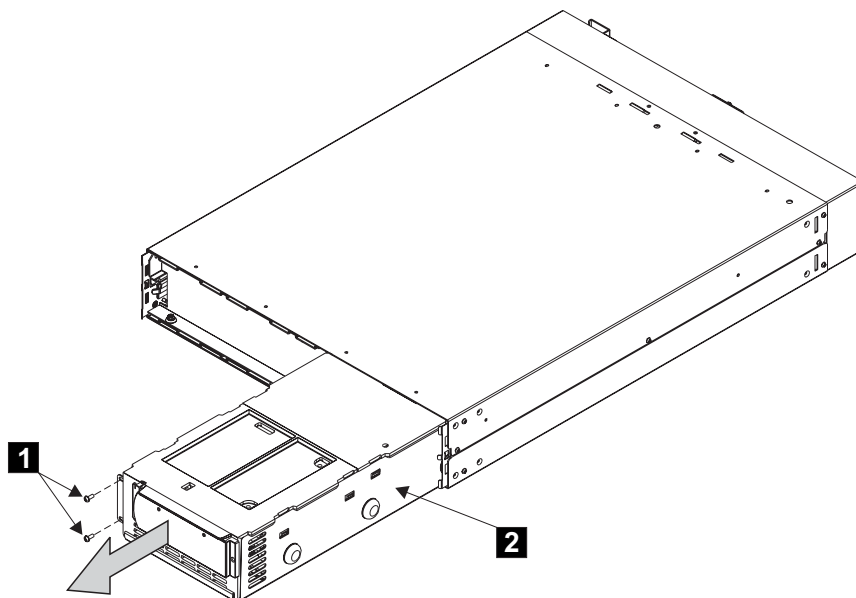

Figure 153. Removing the electronics unit from the 2145 UPS
4. Remove the two screws. See **1** in Figure 153.